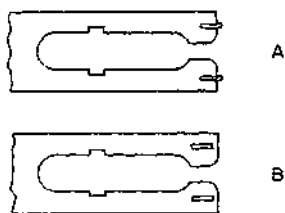

Fig. 6- -Crosspoint Bifurcated Spring Contacts Used on Crossbar Switches
- (b) **Overhanging Crosspoint Contacts on Crossbar Switches:** Where the contacts on crosspoint bifurcated springs overhang the end of the spring, as shown in Fig. 6(A), the replacement contacts will be positioned as shown in Fig. 6(B) using the AA guide.